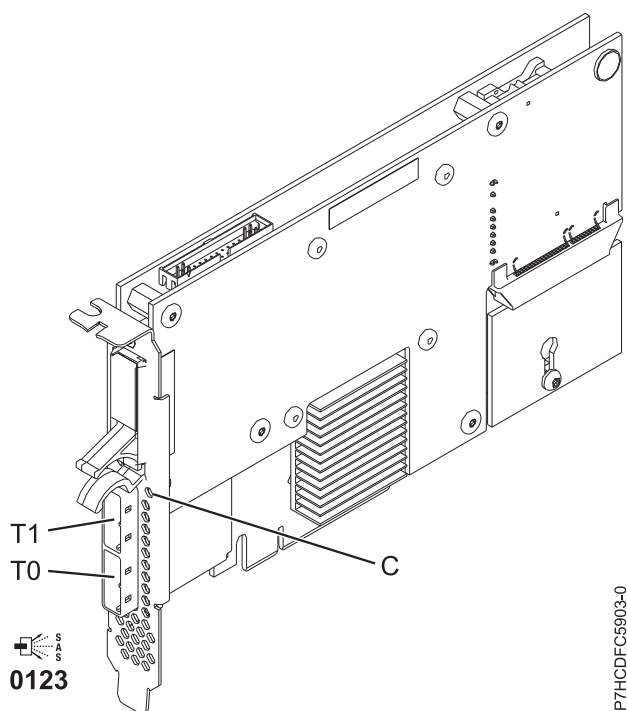

Figure 41. PCIe Dual - x4 3 Gb SAS RAID Adapter
The 5903 or 5805 contains a LED ((C) in Figure 41 on page 113) that flashes if the cache data is present. The cache-data present LED flashes when there is possible data in the cache on the adapter. If the cache data present LED is flashing, do not replace the cache battery pack. If replaced when the LED is flashing, the cache data is lost. See Figure 41 on page 113 to locate the cache-data present LED on this adapter.